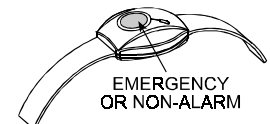

Figure 26. MCT-211
F. MCT-211* (Fig. 26) Water-proof, wrist-worn PowerCode transmitter. Can be enrolled to perform emergency or non-alarm functions.